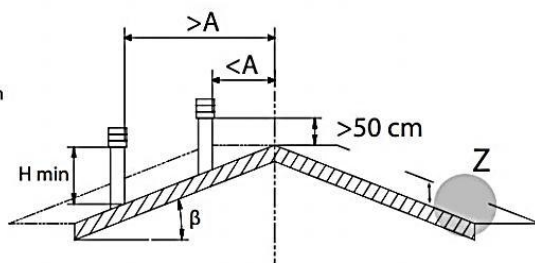

Figure 15
A – see figure 15 and chapter 4.5.4.
The chimney must be **at least 0,5 meters remote above the roof ridge** (see *figure 15*).
- installed **to enable proper dispersion and dilution of combustion products outside the reflux zone** (backflow) because the counter pressure occurs here. Therefore, it is necessary to adhere to limitations listed in *figure 15.*,